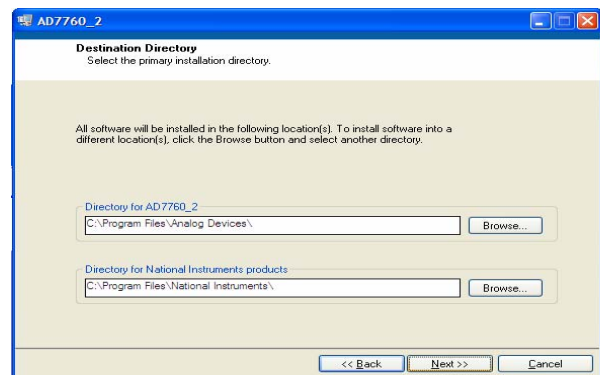

Figure 3. Choose the Destination of the AD776x Software
3. The destination directory can be chosen using the default clicking “Next” as shown in Figure 3). If a different location than the default is preferred, click **Browse** and select the desired location. When ready, click **Next**.